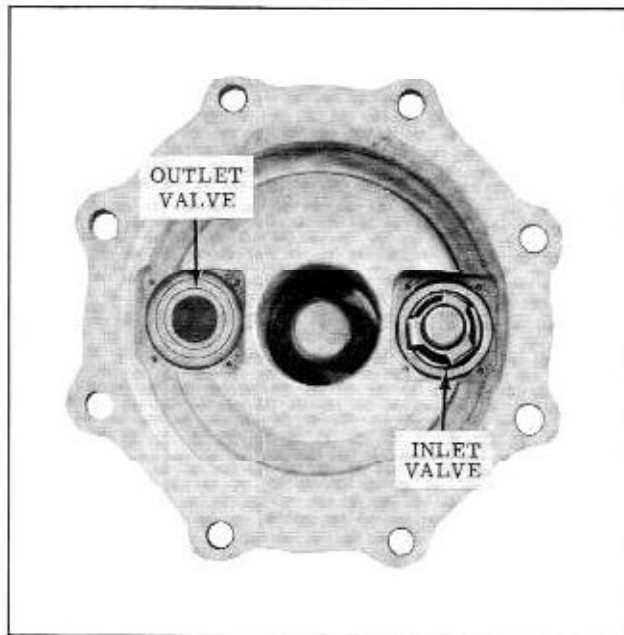

Fig. 8-70 Vacuum Valves
- If valves are to be replaced, remove the staking, then remove the inlet and outlet valves and gaskets from the vacuum cover. (Fig. 8-70)